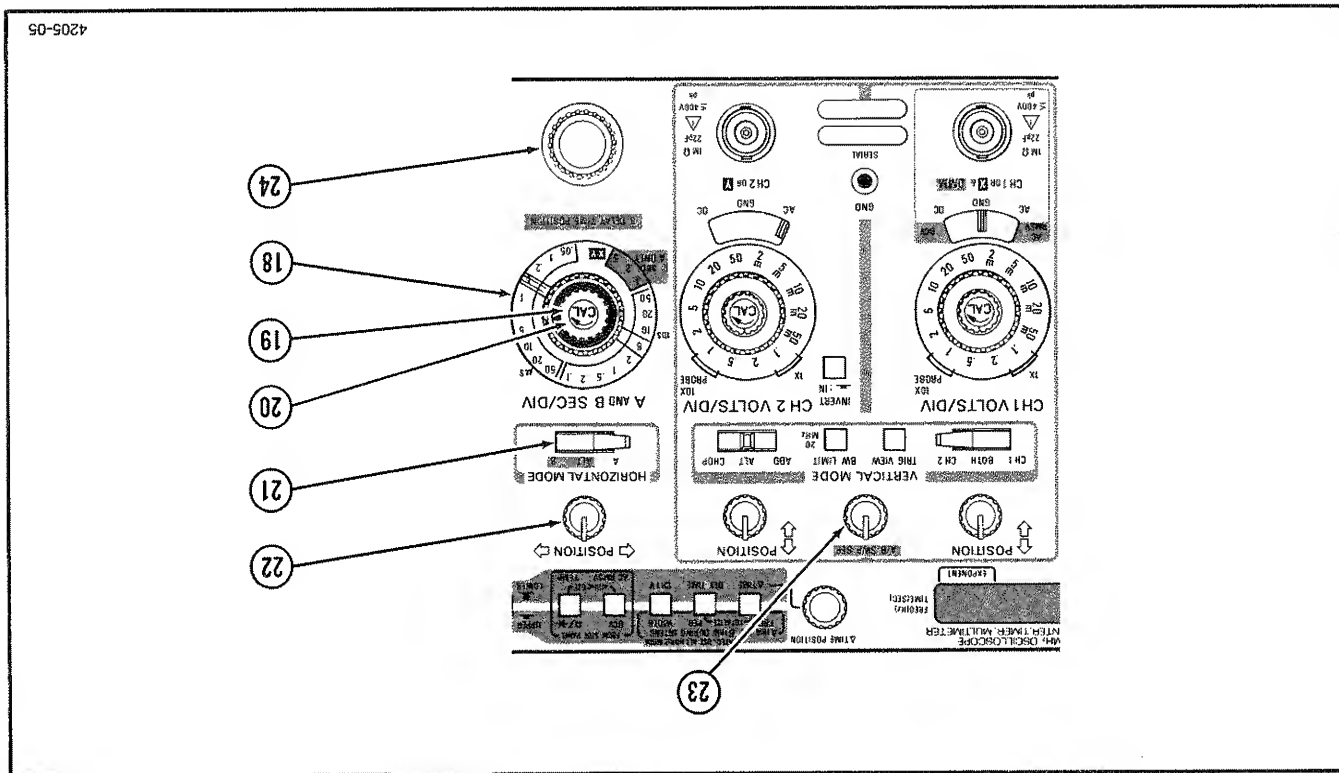

Fig. 2-5. Horizontal controls.
Refer to Figure 2-5 for location of items 18 through 24.